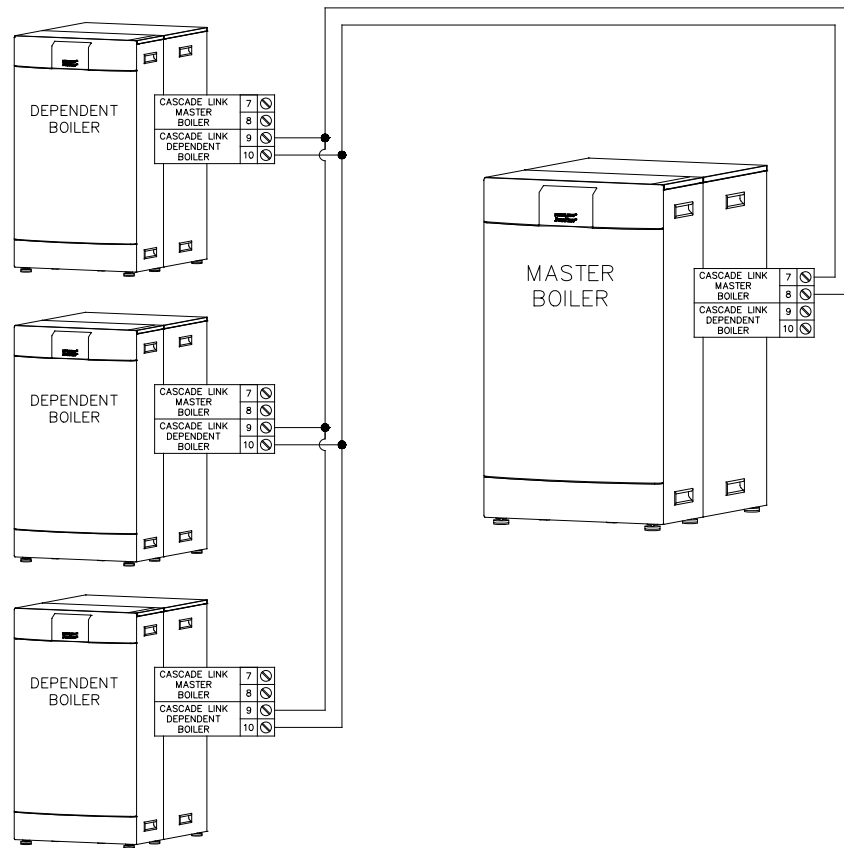

Figure 8.9: Multi Boiler Wiring - Daisy Chain
- a. Figures 8.9 and 8.10 shows the wiring configurations. This method creates independent connections to each dependent boiler to reduce risk of communication loss between boilers.
- e. The central heating (CH) circulating pump(s) should be connected to the managing boiler if they are intended to be controlled by the boiler system.